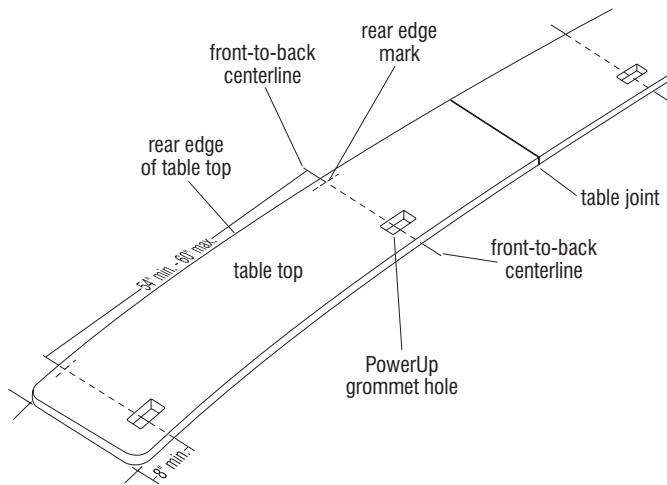
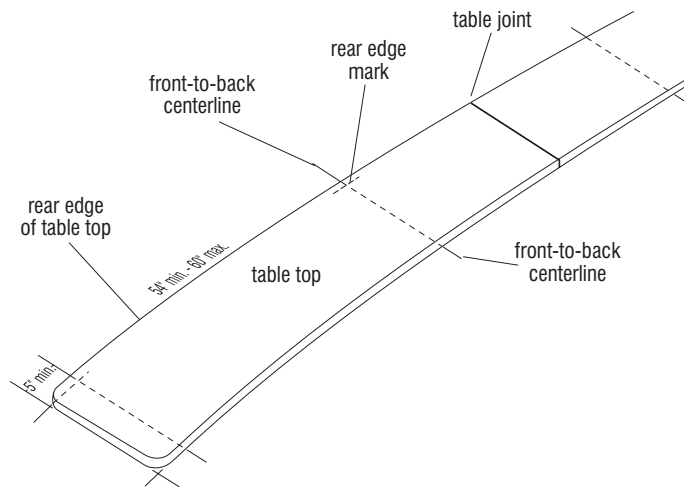

Figure 1a - University Table Top with PowerUp
Figure 1b - University Table Top with Undersurface Power & Data or No Power/Data
1. Refer to the space-planning layout and the identification numbers on the underside of the table tops. Position table tops on the floor, top side up, at the location that they will be installed later (Figure 1a & 1b).
Note: When installing University seating with the PowerUp module, the front-to-back centerlines will run through the center of the grommet holes in the table tops (Figure 1a). When installing University seating with undersurface power & data, or no power, use space-planning layout and see Figure 1b.
2. With the table tops properly laid out on the floor, refer to the space-planning layouts to determine the front-to-back centerline locations for mounting of base flanges. Mark the front-to-back centerline location for each base flange onto the floor at the front and rear edge of the table tops (Figure 1a or 1b).
3. At the rear edge of the table tops, make a 5" to 6" long mark onto the floor along the rear edge of the table top, across the front-to-back centerline as illustrated. The intersection of these marks will aid in centering the base flange of the University base to mount the bases to the floor in step 5 (Figure 1a or 1b).